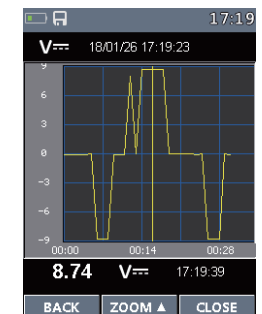

Fig137
- Press the Button MODE key to Trend record(Fig137). And Press the Button ◀ or ▶ key to select previous record measurement or next record measurement.